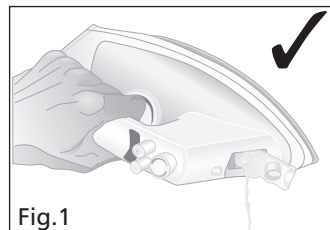
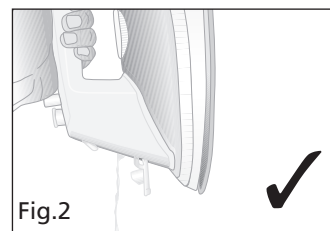

Fig.1
Fig.2
- Drain the water tank **6** in that you open up the water fill opening **9** and either tip the contents out to the side (see Fig.1) or empty it by tipping it up to the front (see Fig.2).